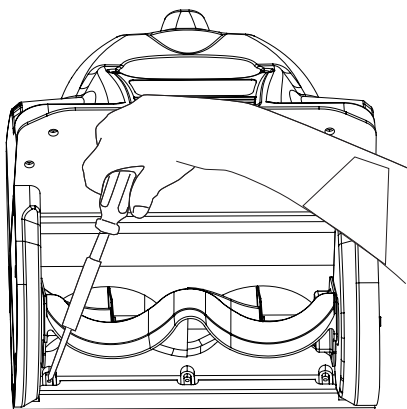

Fig. 7
REPLACING THE SCRAPER *(See Figure 7)*
- Remove the three (3) screws that are located beneath the impeller that secure the scraper to the housing using a phillips screwdriver. (Fig. 7).
- Snap the new scraper into position, and attach it to the Snow Shovel by reinstalling the three (3) screws.